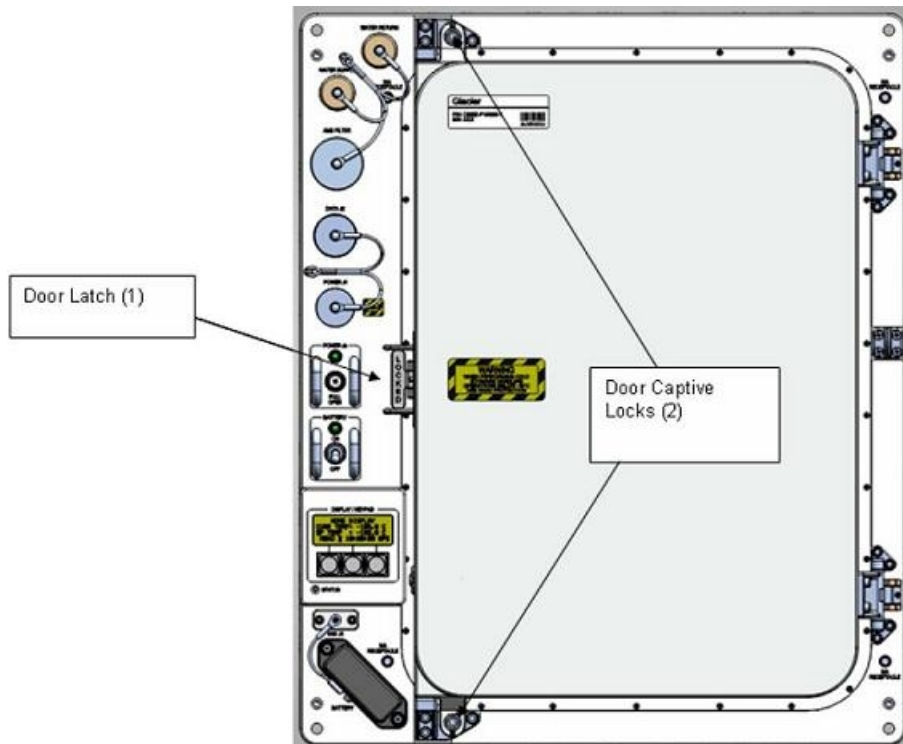

Figure 1. Glacier Configuration
- MF28E/G (Glacier) 1. Unlock Glacier Door Captive Locks (two) using 3/16" Hex Head, 3/8" Drive; 1/4" to 3/8" Adapter, 1/4" Drive; 4" Extension, 1/4" Drive; Ratchet, 1/4" Drive. See Figure 1 Glacier Configuration